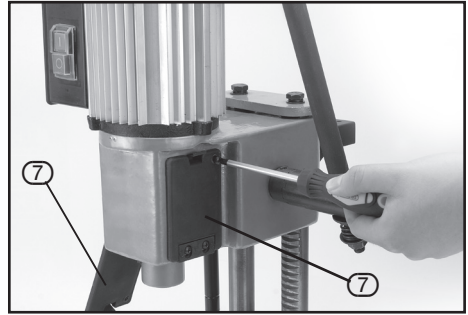

FIG. 7
9.1 CHISEL AND BIT INSTALLATION - FIGS. 7 - 12